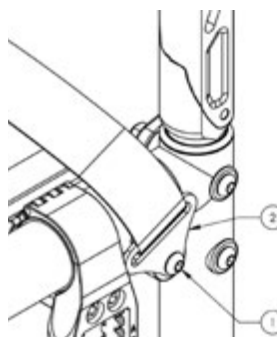

Fig. 12
- Remove Screw (1) in order to remove the seat belt clamp (2) that is attached to the belt (Fig. 12)